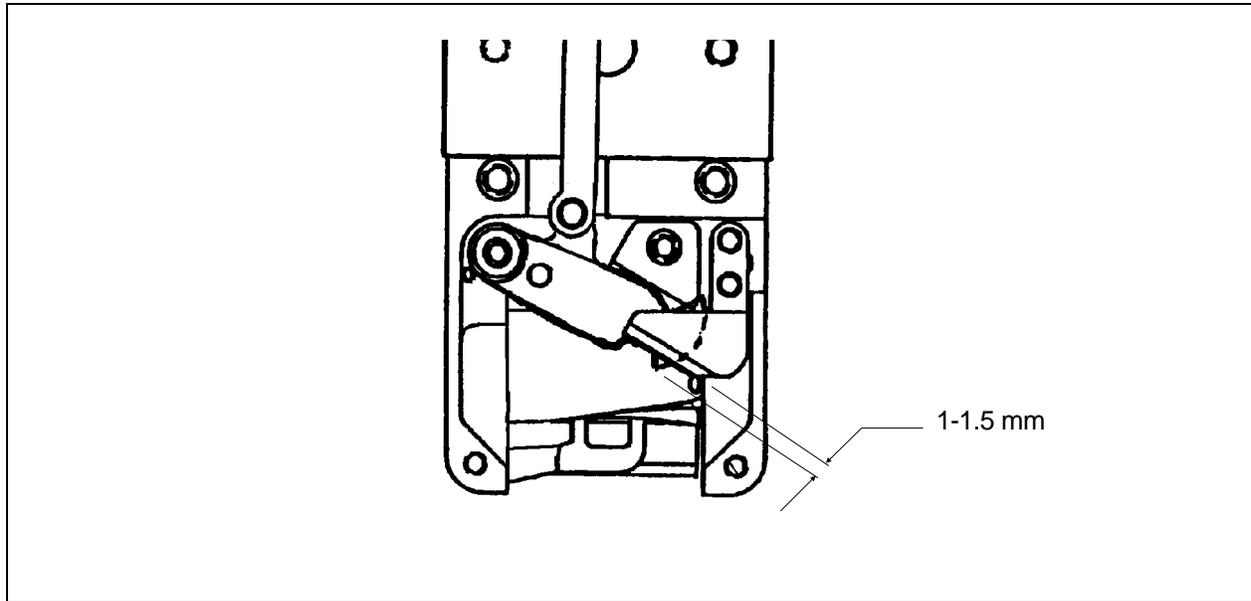

Fig. 4-11 Movable Knife Home Position
4. Check all four Movable Knives. They should look like the Knife in Fig. 4-11. There should a small portion (1-1.5mm)of the Movable Knife's Selector side showing past the edge of the Fixed Blade. Each sewing head should show the same condition. If one or more of the heads have more or less than 1-1.5 mm of the Movable knife showing, they need adjustment. Adjust only those knives that do not look like Fig.4-11.
8. Pull the Movable Knife out and then push it back into its' proper Home Position as shown in Fig. 4-11.